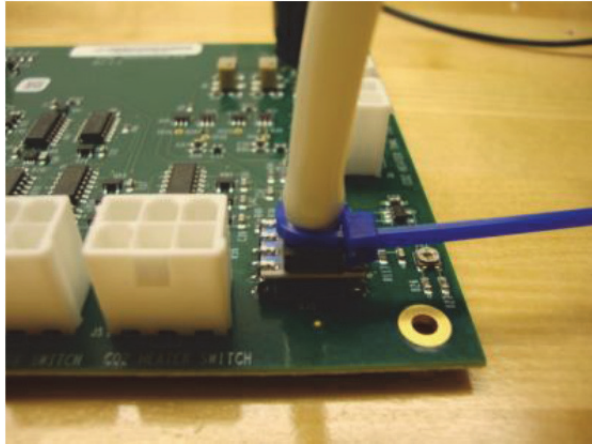

Figure 1
3. Install a zip tie to the pressure sensor, figure 1. Use a zip tie gun to secure and trim it. Ensure the zip tie is below the barb of the pressure sensor. Use the zip tie gun with care, making sure to allow the gun to only contact the sensor and not put excess strain on the sensor.